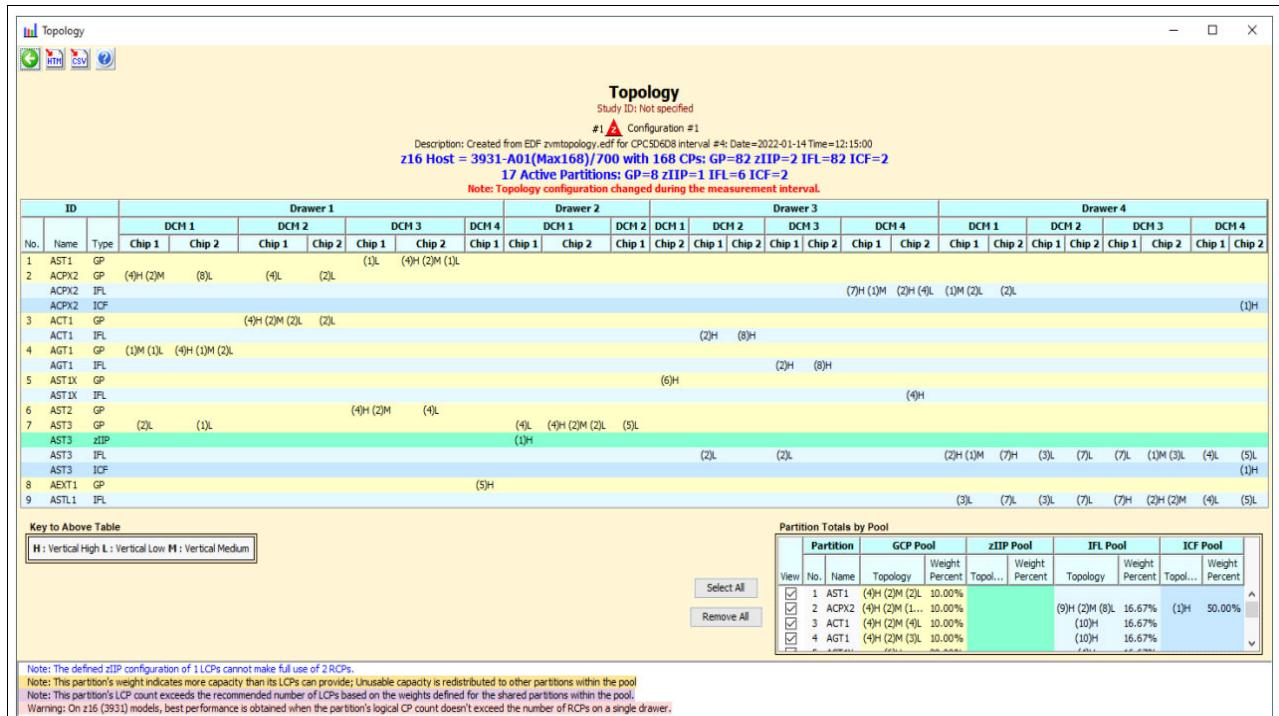

Figure 12-10 IBM zPCR Topology report example
See Figure 12-10 on page 491.
The IBM zPCR topology report is shown in Figure 12-10 on page 491, where:
**Note:** The Topology report in Figure 12-10 on page 491 is showing all active partitions. Information about a specific partition can be obtained by clicking on the “Remove all” button to the left of the Partition Totals by Pool table at the bottom right and then clicking on the “View” check-box for a specific partition.